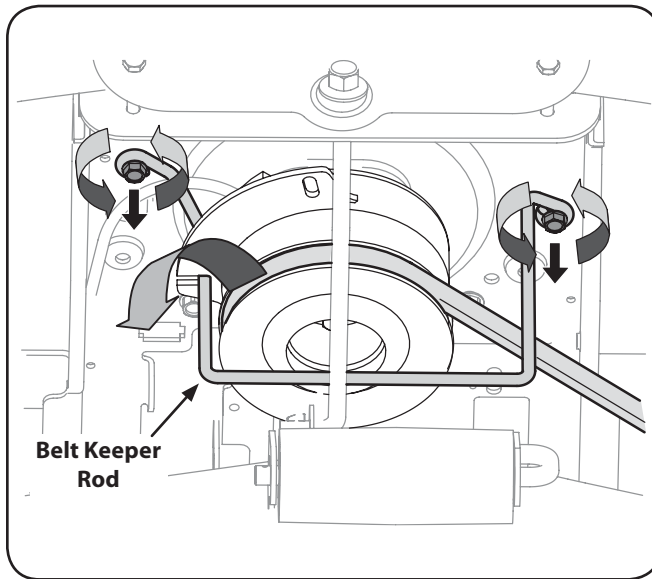

Figure 7-1
3. Locate the PTO clutch under the front of your tractor. See Fig. 7-1.
4. Remove the belt guard and belt as follows Refer to Fig. 7-1:
10. Reinstall the belt guard in the notch of the PTO clutch. See Fig. 7-1.